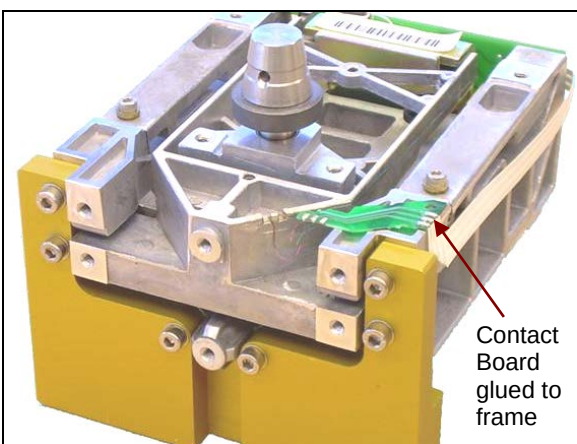

Figure 3-51. Contact Board with ribbon cable.
13. If the Ratio Beam is to be removed, unsolder the 3-wire ribbon cable from the Contact Board. (See Figure 3-51.)